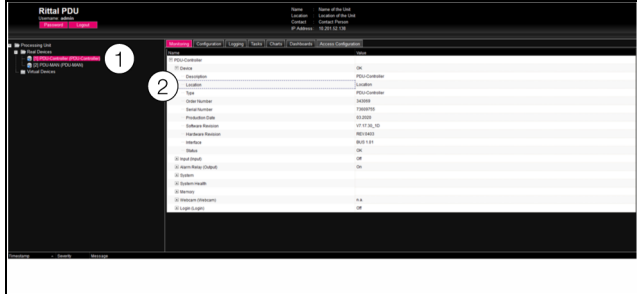

Fig. 55: Select an individual parameter
- One after the other, open the "PDU-Controller" and "Device" entries by clicking on the "plus" symbol in front of the entry (fig. 55, item 1).
- Position the mouse pointer at the end of the first column in the "Location" line (fig. 55, item 2).